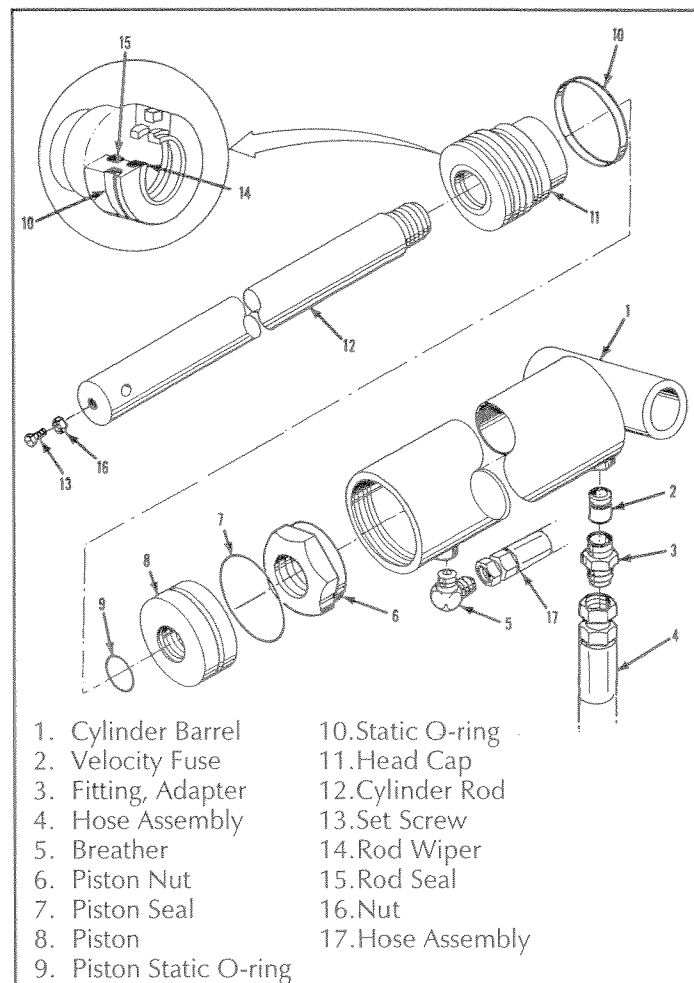

Figure 4-19: Lift Cylinder Assembly
4.12 Lift Cylinder (Figure 4-19)